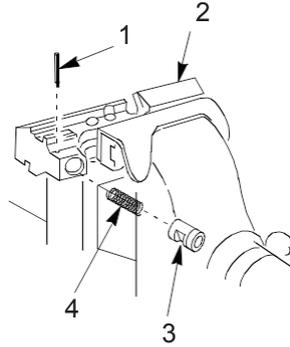

Figure 8. Spring Feed Roller Assembly and Slide Body.
2. Place slide body (Figure 8, Item 2) in a protected jawed vise with feed roller hole facing you.
3. Install spring (Figure 8, Item 4) and feed roller assembly (Figure 8, Item 3) in slide assembly (Figure 8, Item 2). Align flat portion of feed roller assembly (Figure 8, Item 3) with pin hole in slide body (Figure 8, Item 2).
4. Compress feed roller assembly (Figure 8, Item 3) and install new spring pin (Figure 8, Item 1). Spring pin (Figure 8, Item 1) must not protrude from either side.